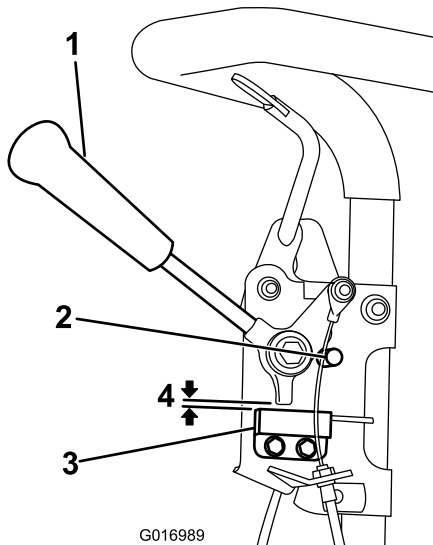

Figure 30
1. Make sure that the engine is off and the traction lever is disengaged and resting against the neutral stop (Figure 30).
2. Loosen the interlock switch mounting fasteners (Figure 30).
3. Place a 0.8 mm (.032 inch) thick shim between the traction lever and the interlock switch (Figure 30).